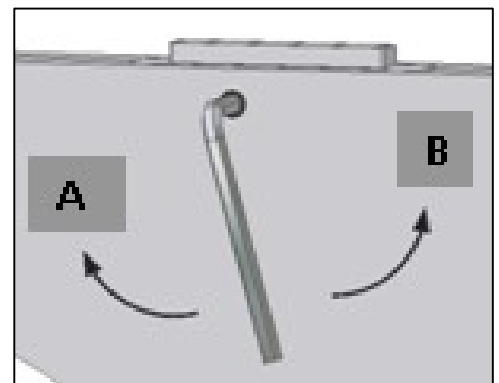

Fig. 3
- Fix the **back panel** to the panel of the bottom and fasten the camlocks(Fig.3);